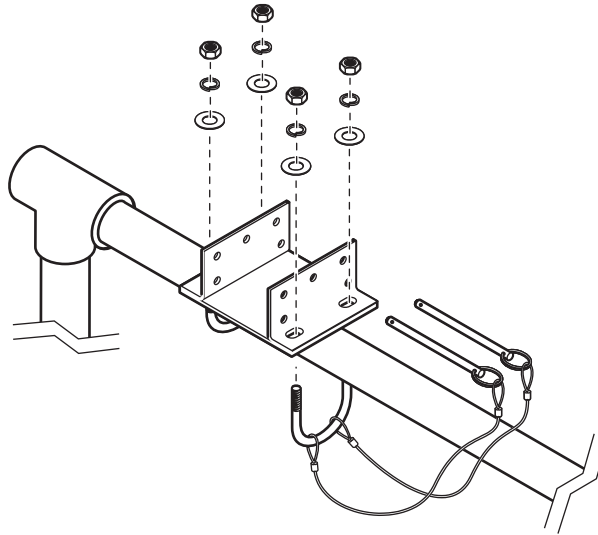

Figure 3 Installing the mounting bracket
1. Find a suitable installation location and loosely fit the mounting bracket to the railings (Figure 3 on page 3).